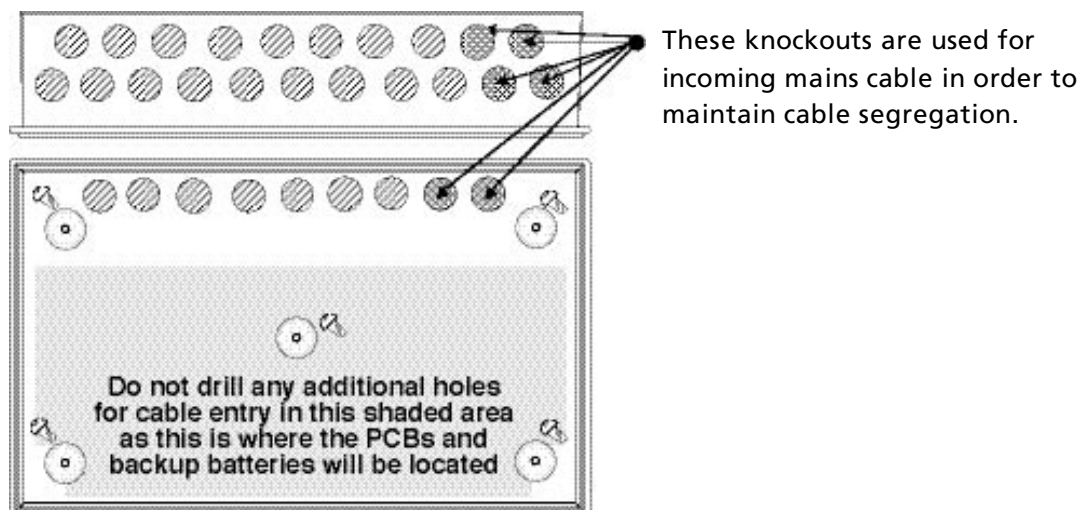

Figure 2 : Location of Enclosure Mounting Holes and Knockouts
**Note:** The detector and alarm sounder circuit cabling is classed as low voltage and must be segregated away from mains voltages. Careful planning is needed to ensure this. See Figure 2 below for guidance.